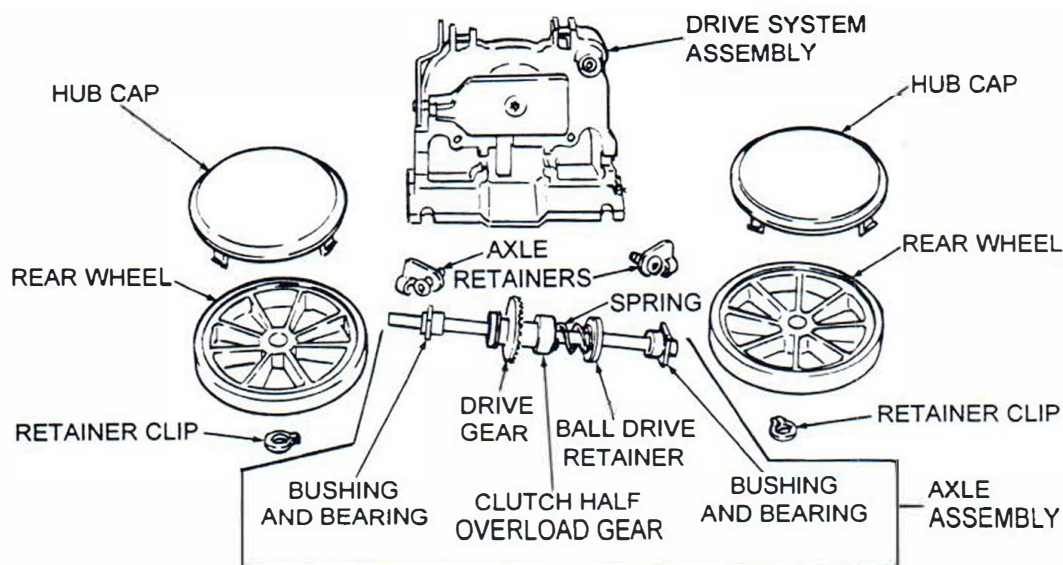

Figure 18. Drive System Assembly and Axle Assembly Components
- I. See Figure 18. Position axle so that left side of axle has the greatest distance from the axle drive balls to the end of axle.
- J. From the left side of axle, install the clutch half overload gear with the slotted end over the axle drive balls, then install the drive bevel gear with teeth facing teeth of clutch half overload gear. Install bearing with washer side against drive bevel gear. Install axle bushing with longer shoulder toward bearing. Install wheel with flat side toward axle bushing, then install wheel retainer clip and hub cap. See Figure 18.
- K. From right side of axle, install ball drive retainer against clutch half overload gear with cup side toward gear, install spring against ball drive retainer. Install bearing with washer side against spring. Install axle bushing with longest shoulder toward bearing. Install wheel with flat side toward axle bushing, then install wheel retainer clip and hub cap. See Figure 18.
- L. See Figure 18. After the rear axle is completely assembled, move the left bearing to the right toward the clutch half overload gear assembly. Insert left axle bushing into the left bushing sleeve of the drive system casting, with tab pointing up, and right side of axle angled away from drive system assembly.